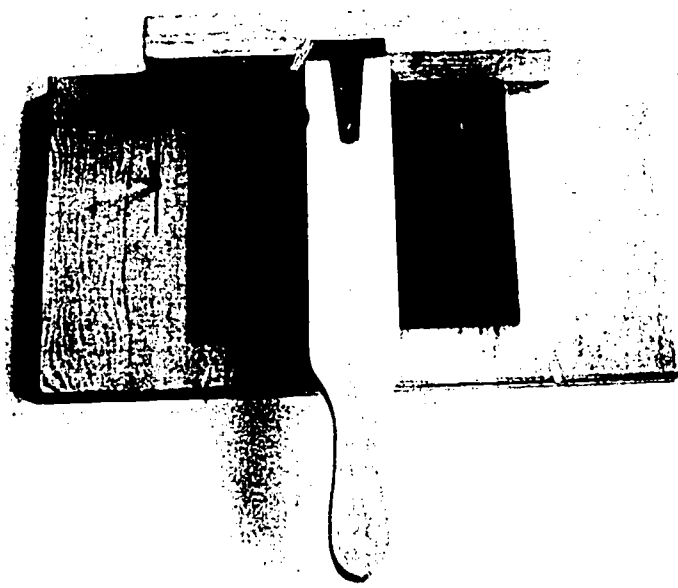

Fig. 149-2. Drilling Fixture No. 149-1
1. It is highly recommended that instruction panels be placed near work areas to guide each group in the manufacture of each component. The eleven (11) instructional charts are available from McKnight & McKnight Publishing Company, Bloomington, Illinois. The charts are printed on sheets that are 25" x 38". You will cut each instructional panel (follow the dotted cutline) from each sheet and mount it on plywood, cardboard, masonite, or poster board. Hang the instructional panel in a work area so each group can follow the production sequence of each component. Store the panels in a clean storage area at the end of the period.
3. Assemble the Drilling Fixture Kit 149-1 supplied by IACP following the directions given in Assignment 144. See Fig. 149-2. The fixture might be improved or modified by the individual teacher. When drilling the $1\frac{3}{32}$ " and $\frac{5}{8}$ " holes in the shade bottom and base top, be sure to use fix-
Instructions for Building and Using Drill Fixture No. 149-1 (Figs. 149-2 and 149-3)